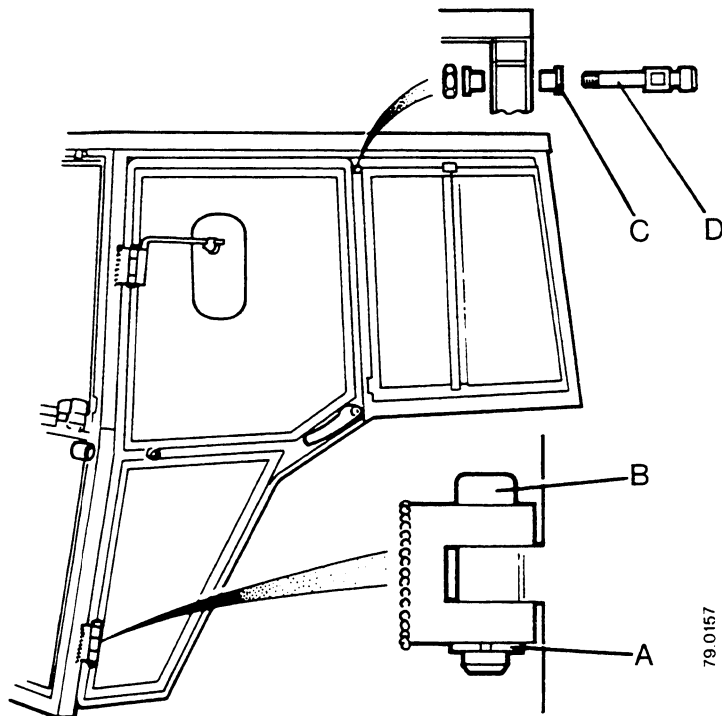

FIGURE 5. REMOVAL OF CAB DOORS
1. Remove circlip A from the hinge pin on the top and bottom hinges. (See Figure 5).